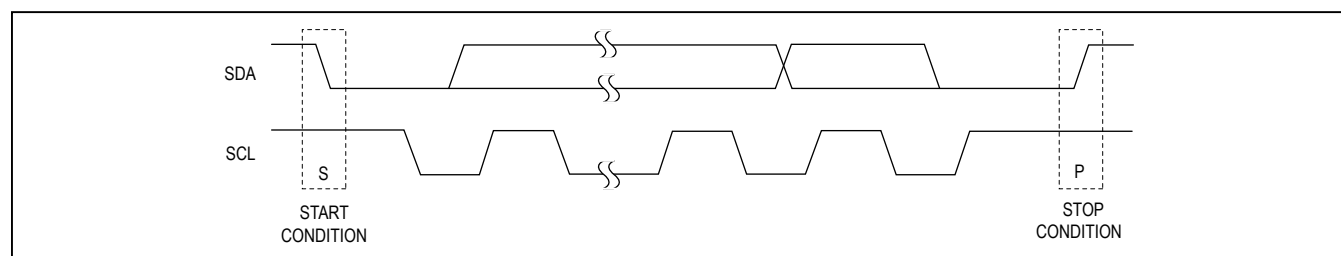

Figure 39. START and STOP Conditions
Both SCL and SDA remain high when the interface is not busy. A master signals the beginning of a transmission with a START (S) condition by transitioning SDA from high to low while SCL is high (see Figure 39). When the master has finished communicating with the slave, it issues a STOP (P) condition by transitioning SDA from low to high while SCL is high. The bus is then free for another transmission.